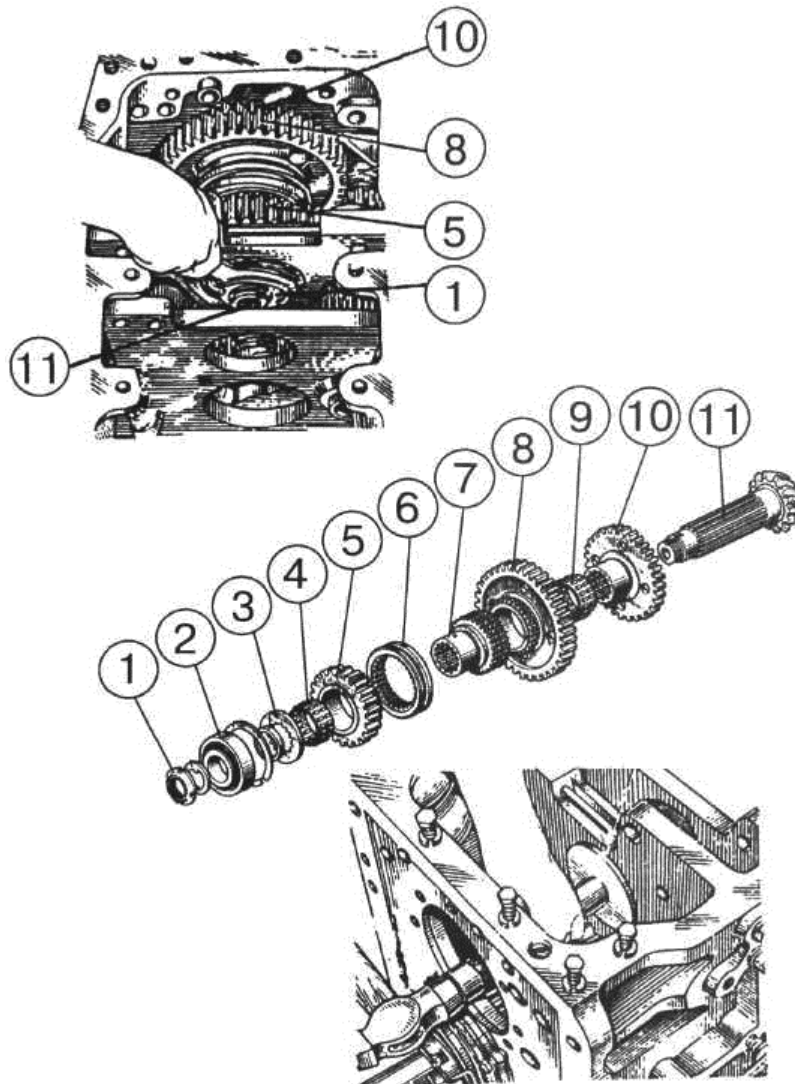

Figure 4.74
- a) unscrew nut 1 (Figure 4.74) and knock out shaft 11 without damaging threaded section;